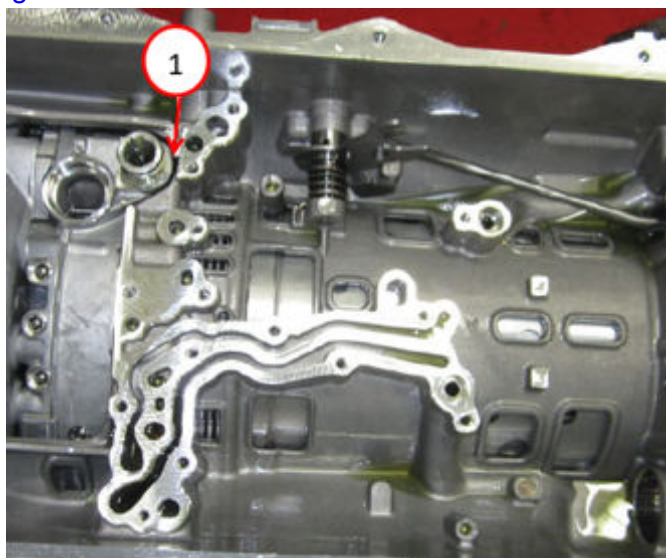

Fig. 15
24. Carefully pry the oil pump housing away from the case with a small flat blade screwdriver or equivalent through the case opening Fig. 15.